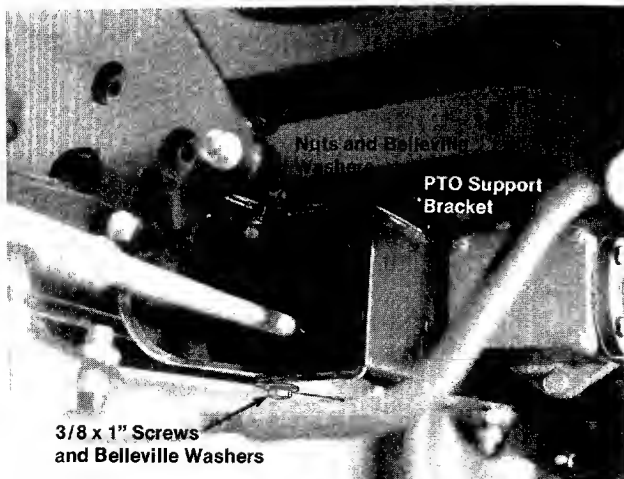

FIGURE 19
2. Line up the holes on the bottom of the PTO support bracket with the holes in the tractor frame and attach with two 3/8 x 1" screws and belleville washers. See figure 19.